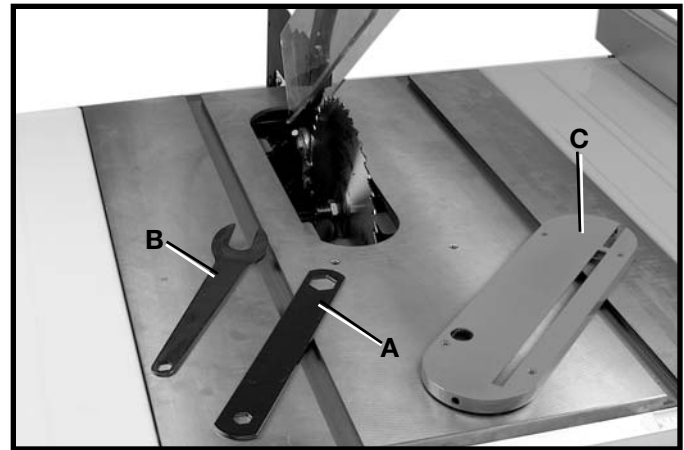

Fig. 53
1. **NOTE:** Two 7/8" wrenches are supplied with the saw for changing the saw blade: a box end wrench (A) Fig. 53, and open end wrench (B).
2. Remove table insert (C) Fig. 53, and raise saw blade to its maximum height.